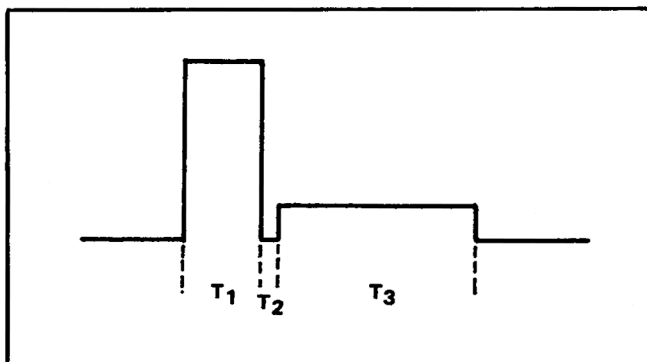

Fig. 2-10. Erase pulses from Storage Target Backplate Amplifier.
k. Press and hold the ERASE button for a repetitive erase cycle. Adjustment of the trigger level may be necessary for a proper display. See Fig. 2-10.